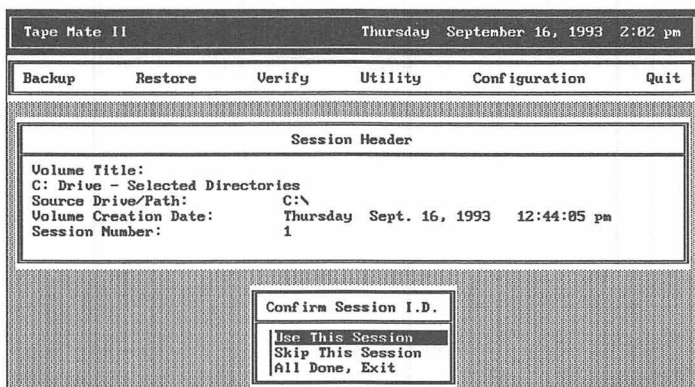

Figure 44 Confirm Session I.D. Menu
- 7 If you selected Currently Mounted Volume in step 5, the Session Header dialog box and Confirm Session I.D. menu appear (see *Figure 44*). The Session Header dialog box displays information on the first session on the volume. If you don't want to verify this session, select **Skip This Session** from the Confirm Session I.D. menu. Information on the next session then appears in the dialog box. When the dialog box displays the session you want verified, select **Use This Session**.
When the verification is complete, a summary statement appears—unless other sessions follow that session on the volume. In that case, the Session Header dialog box and Confirm Session I.D. menu reappear (see *Figure 44*). If you don't want to verify another session, select **All Done, Exit**. If you select another session, the Verify Parameters dialog box reappears so that you can change the Source Drive and Source Path fields for the new session.